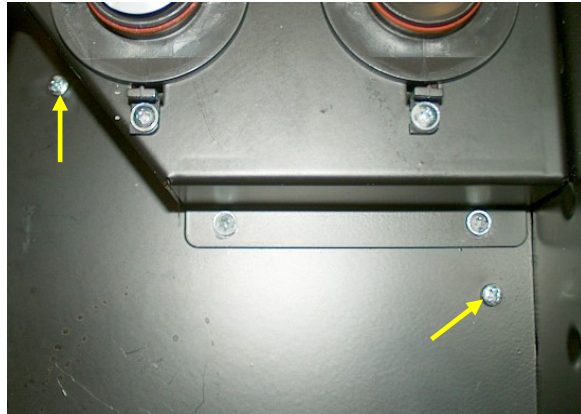

Fig. 9
6. Remove the support screws at the front of the machine (Fig. 9)